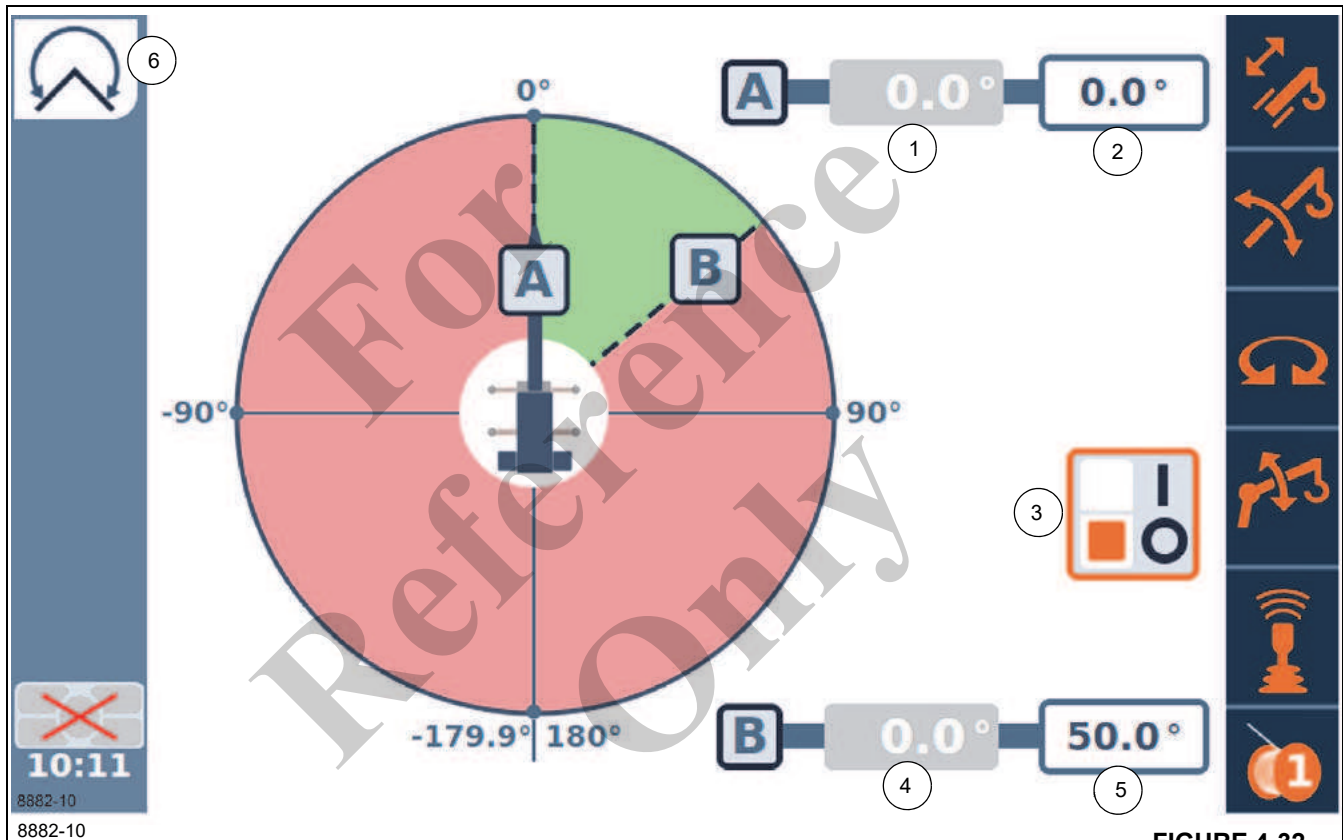

FIGURE 4-32
For each of the limitations, the limitation must first be ENABLED within the WRL feature of the Crane Control System software. This is done with particular screens and buttons on the Operating Display Module (ODM). Once the limitation is enabled using Item (3) in Figure 4-32, then it can be DEFINED (in terms of specific angles or locations). This is also done with the screen and buttons on the ODM, as well as possibly operating the boom to define particular locations.
If the Swing Angle Limitation is selected from the menu of WRL Limitations, then the Swing Angle Limitation Screen will be shown (6), (Figure 4-32).
Using the Left Arrow and Right Arrow Function keys (4), (Figure 4-21) on the Navigation Control Pad or the Jog Dial (5), (Figure 4-22) changes the object highlighted on the screen. As the arrow keys are pressed, the highlight will move between the objects, with the color orange typically meaning that the object is selected and can be affected by subsequent actions. In Figure 4-32, the orange Icon (Item 3) symbol is selected since it has the orange color highlighting.
3. Select the Swing Angle Menu Screen (2), (Figure 4-30). **NOTE:** The Swing Angle Screen (6), (Figure 4-32) Icon is shown on the top left side of the ODM screen.
4. Enable the limitation by using the Jog Dial (5), (Figure 4-22) or the Arrow Keys (4), (Figure 4-21) and move to the Enable / Disable Switch ON/OFF (3), (Figure 4-32). **NOTE:** The Switch (3), (Figure 4-32) is the Swing Enable / Disable Switch ON/OFF and is a toggle switch. Click OK (5), (Figure 4-21), or the Jog Dial (5), (Figure 4-22) to toggle the switch.
5. Move the Boom to the desired position. This position will indicate the swing angle current value Limitation A (1) swing (left) position.
6. Use the Jog Dial (5), (Figure 4-22) or the Arrow Keys (4), (Figure 4-21) and move to the Limitation Value (1), (Figure 4-32). Click OK to set the current value Limitation A (1), (Figure 4-32) position.
7. Repeat Steps 4 thru 6 to set the Limitation B (4), (Figure 4-32) Swing (Right) Direction value.
3. Select the Swing Angle Menu Screen (11), (Figure 4-24). **NOTE:** You know you are on the Swing Angle Screen by looking at the Icon on the top left side of the ODM screen. The Icon (6), (Figure 4-32) at the top of the screen should show the Swing Angle Limitation Icon.
4. Enable the limitation by using the Jog Dial (5), (Figure 4-22) or the Arrow Keys (4), (Figure 4-21) and move to the Enable / Disable Switch ON/OFF (3), (Figure 4-32). **NOTE:** The Switch (3), (Figure 4-32) is the Enable / Disable Switch ON/OFF and is a toggle switch. Click OK (5), (Figure 4-21), or the Jog Dial (5), (Figure 4-22) to toggle the switch.
5. Use the Jog Dial (5), (Figure 4-22), to move and select the Swing Angle Left Limitation A (2), (Figure 4-32) to set the Left Angle Limitation value. Use OK to begin changing the value shown. Enter a value by using the Jog Dial (5), (Figure 4-22) or the upper and lower arrow keys (4), (Figure 4-21) to change the value (in tenths) to the desired swing angle value. Use the OK Button (5), (Figure 4-21) to finish entering the values.
6. Repeat Steps 4 thru 6 to set the Limitation B (5), (Figure 4-32) Swing Left Direction value.
NOTE: Turning off the power to the control system also disables the WRL Limitations but it will remember the set points (2) and (5) as shown in (Figure 4-32).
NOTE: The Swing Angle Screen (6), (Figure 4-32) Icon is shown on the top left side of the ODM screen.
2. Use the Left Arrow and/or Right Arrow Function keys (4), (Figure 4-21) to highlight the Switch Enable/Disable Symbol (3), (Figure 4-32). Enable is "I" and Disable is "O".
4. Enable the limitation by using the Jog Dial (5), (Figure 4-22) or the Arrow Keys (4), (Figure 4-21) and move to the Enable/Disable Switch (1), (Figure 4-32). **NOTE:** The Switch (1), (Figure 4-33) is the Enable/Disable Switch and is a toggle switch. Click OK (5), (Figure 4-21), or the Jog Dial (5), (Figure 4-22) to set the switch.